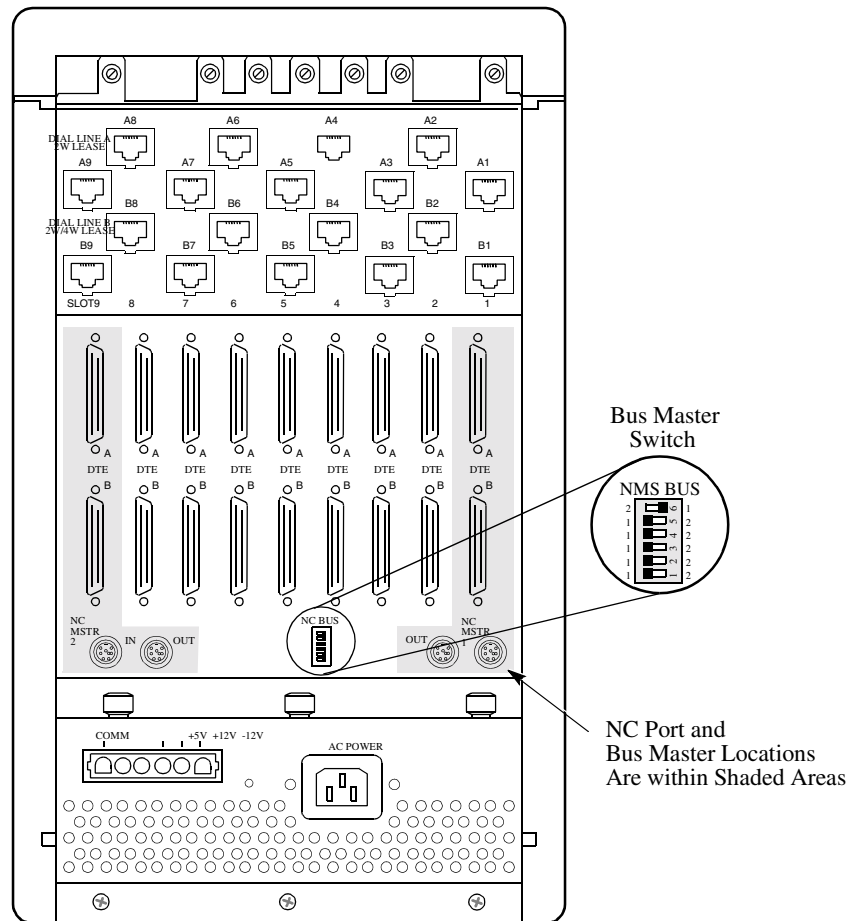

Figure 11. Combining NC Ports With Backplane NMS Bus DIP Switches
- 2) On the backplane, locate the NMS Bus DIP switch between Bus 1 Master slot and Bus 2 Master slot (Figure 11). Set all six NMS Bus DIP switches to 1.
Figure 11 illustrates this example.